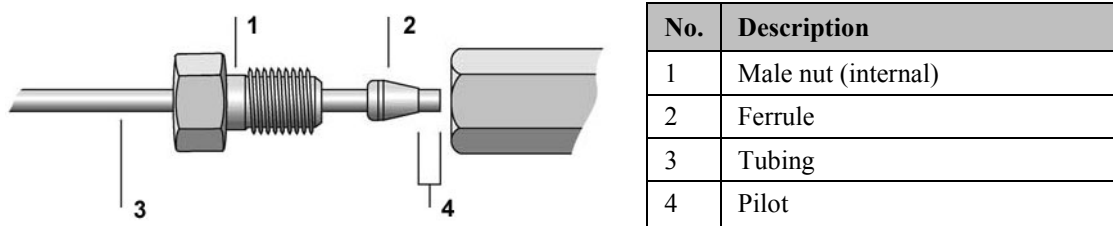

Fig. 54: Tubing connections
3. Open the connection and remove the assembly to inspect the pilot distance (→ Fig. 54).